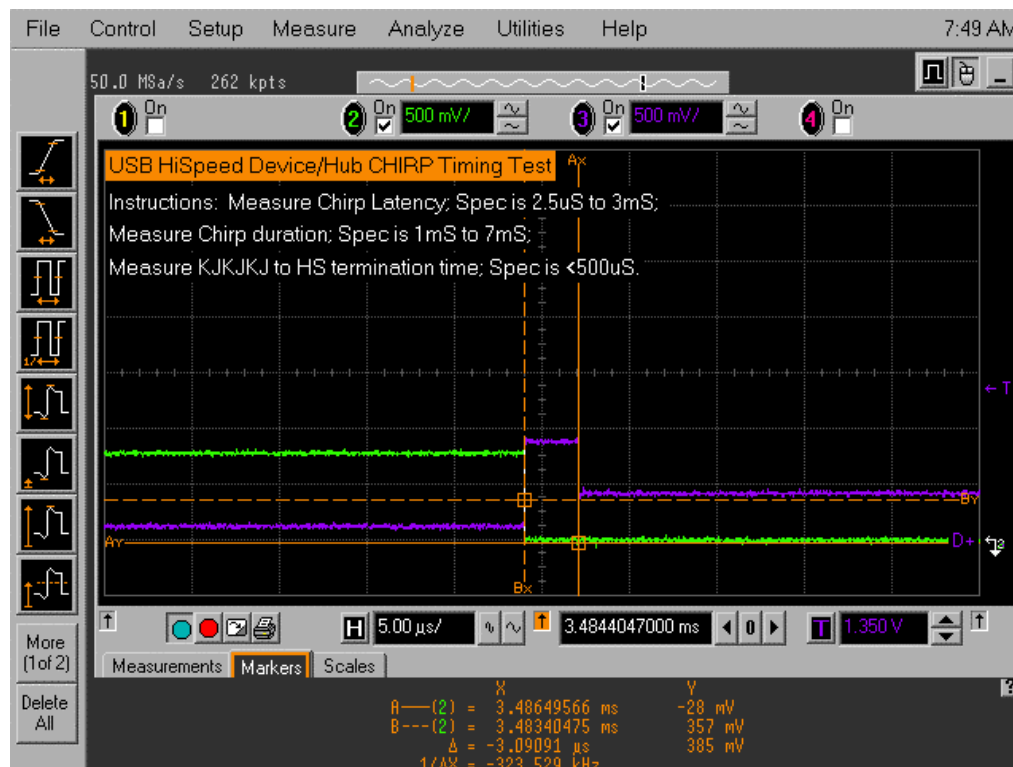

Figure 19. Time From Start of Last J in CHIRP K-J-K-J-K-J To Device Turns on HS Termination
8. Using the markers, measure the time from the beginning of the last J in the CHIRP K-J-K-J-K-J (3 pairs of CHIRP-K-J's) to the time when the device turns on the Hi-Speed terminations, as shown in Figure 19...